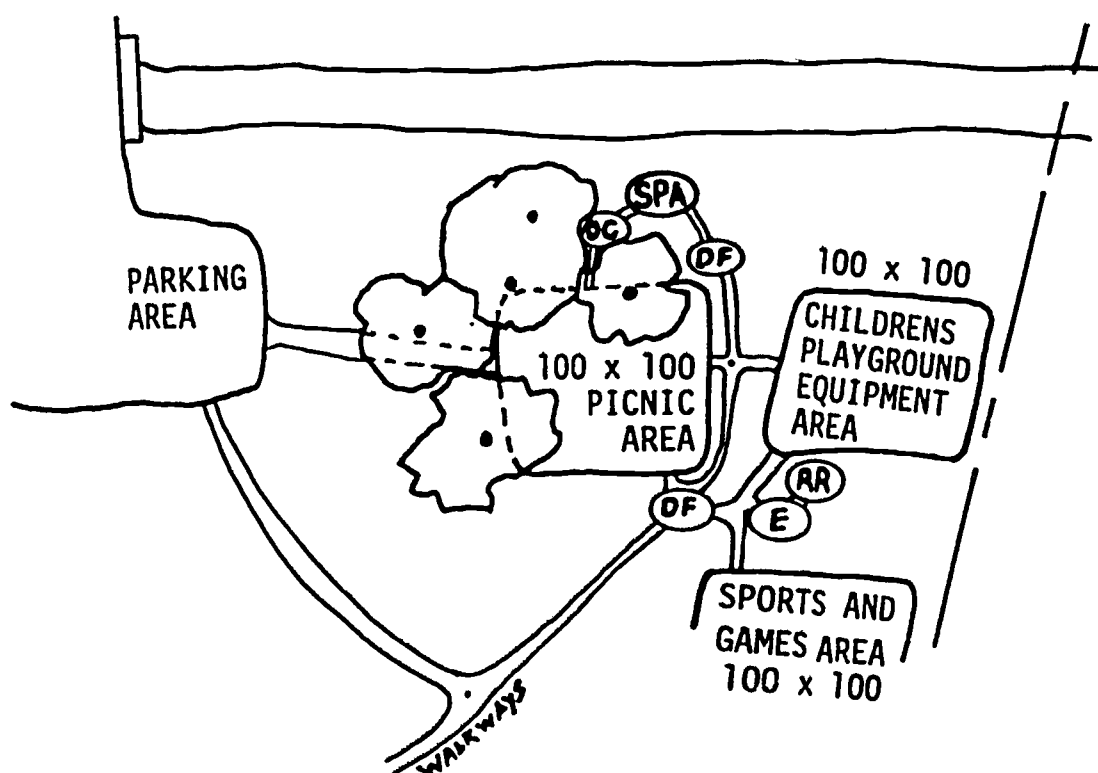

Fig. 13A-4. Example Refined Area
9. After the teacher approves your sketch, draw paths or walkways to connect all of the areas listed in Fig. 13A-1. The path may be curved or straight. Draw two lines very close together for the path. See Fig. 13A-4.